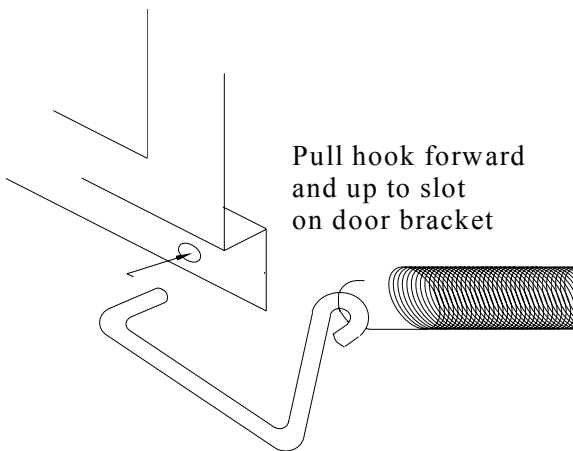

Fig. 1– Removing the Trim Hooks
- 1) To remove the glass, remove the two trim hooks inside the valve chamber. (see figure 1)